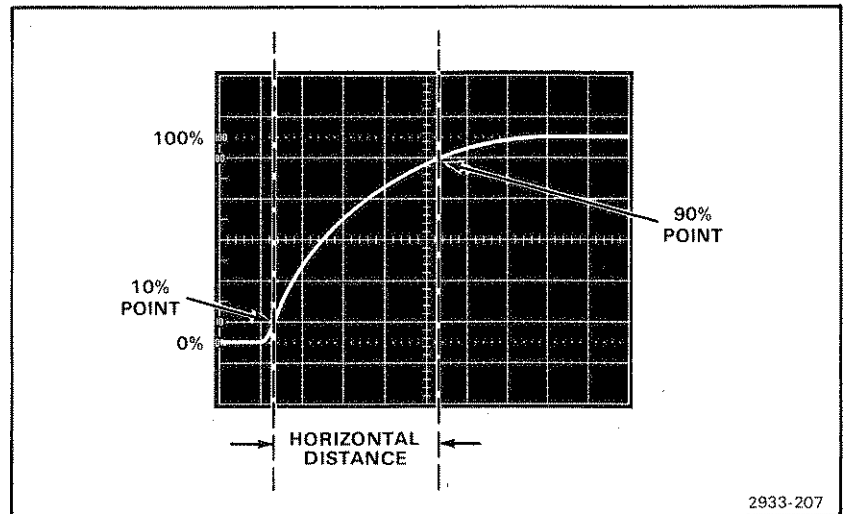

Figure 3-4. Measuring risetime.
4. Set the time-base triggering controls to obtain a stable display. Set the Time/Div switch to the fastest sweep rate that will display less than eight divisions between the 10% and 90% points on the waveform (see Fig. 3-4).